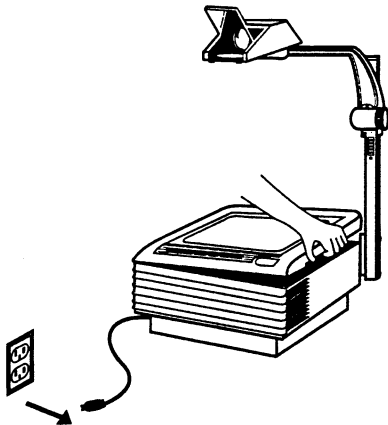

Figure 2-10. Stage Cover Latch
2. Press the release latch and lift to open the top cover. Figure 2-10.